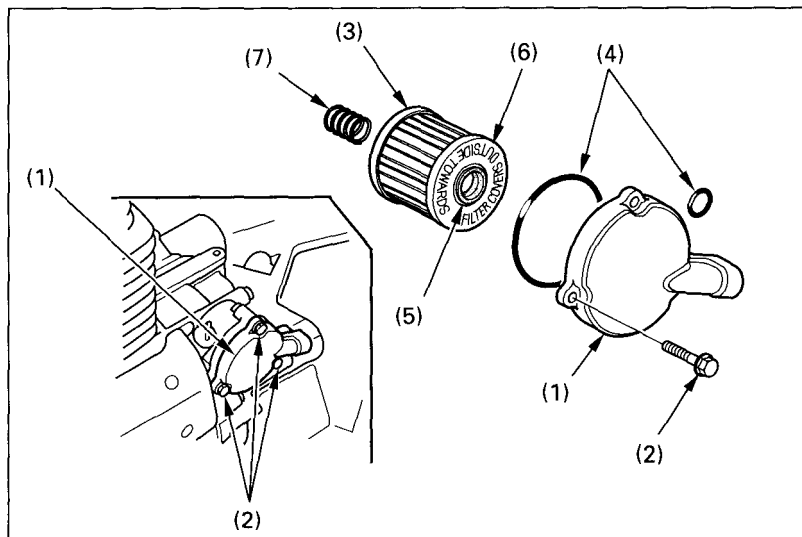

Fig. 4-13 (1) Oil filter cover
- (1) Oil filler cap
(2) Oil drain plug
3. Remove the oil filter cover (1) (Fig. 4-13) by removing the bolts (2). Let the remaining oil drain out. Discard the oil filter (3).
4. Check that the oil filter cover O-rings (4) are in good condition and then install a new oil filter. Use only the Honda genuine oil filter or a filter of equivalent quality specified for your model. Using the wrong Honda filter or a non-Honda filter which is not of equivalent quality may cause engine damage.
5. Install the filter with the rubber seal (5) facing out, away from the engine. You will see the "OUTSIDE (TOWARDS FILTER COVER)" mark (6) on the filter body, near the seal.